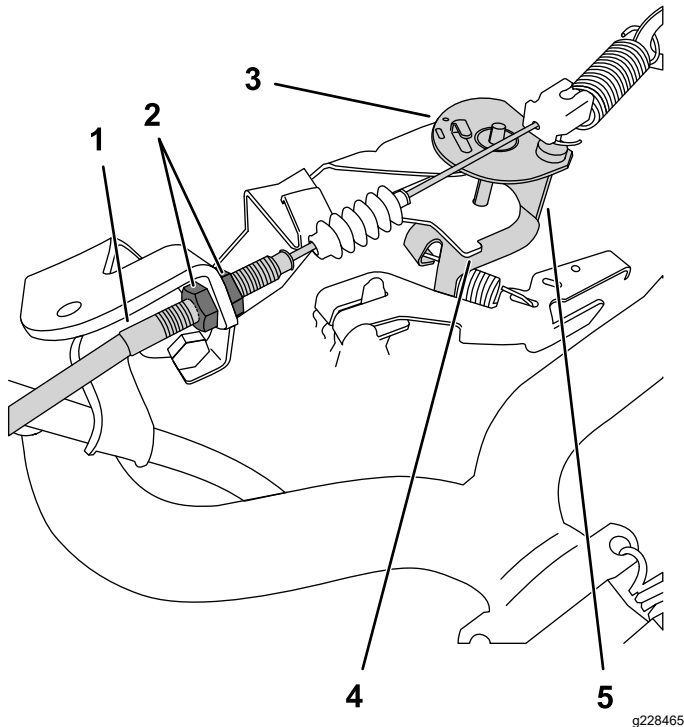

Figure 38
3. At the throttle cable, loosen the forward jam nut and tighten the rear jam nut to increase the low idle (Figure 38).